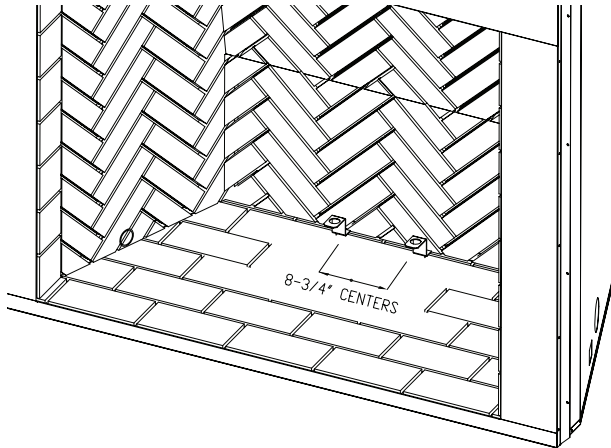

Figure 26 - Installing Grate Retainers
1. Place the provided grate retainers on the hearth as shown in Figure 26, page 13. The back of the retainer will be flush with the rear firebrick wall. Mark the center of the hole on the hearth with a marker.